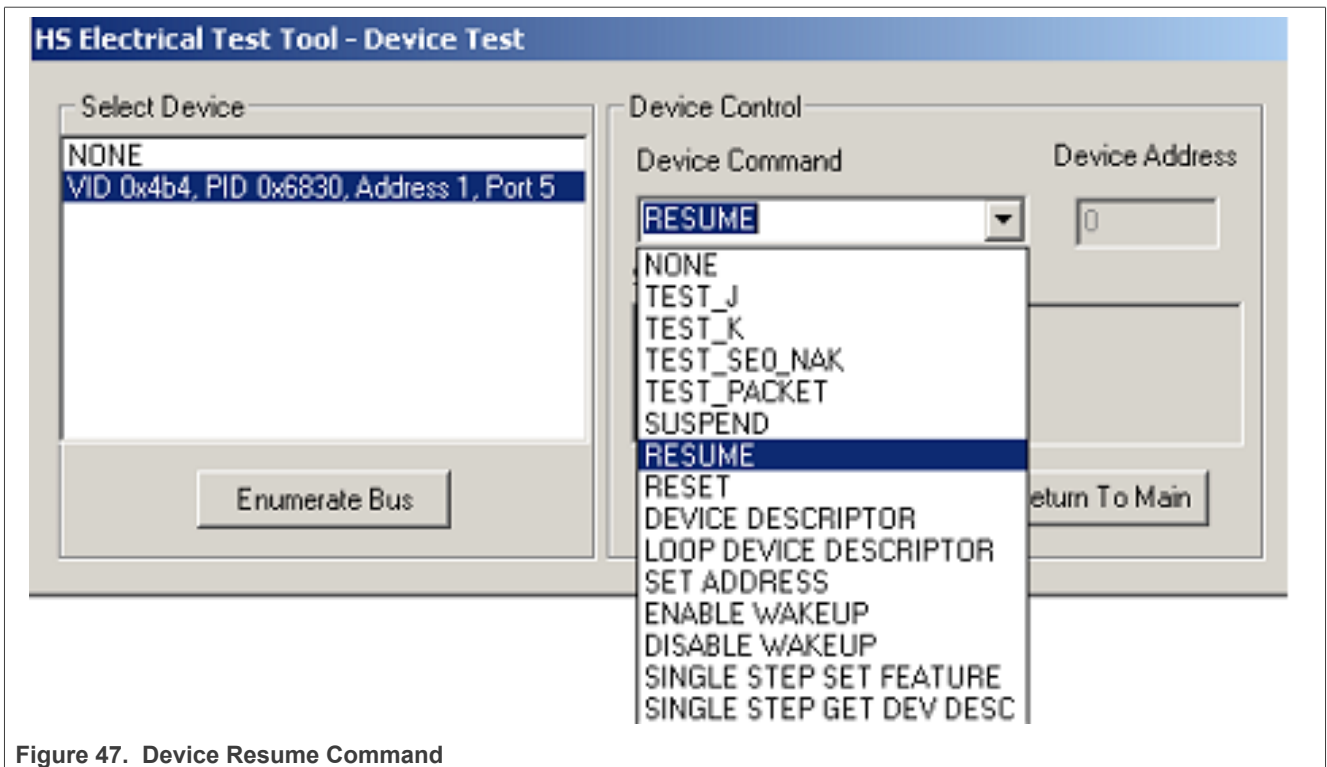

Figure 47. Device Resume Command
5. Select **RESUME**, then click **EXECUTE** once to resume the device from suspend. The captured resume transition should appear as in Figure 47 below.